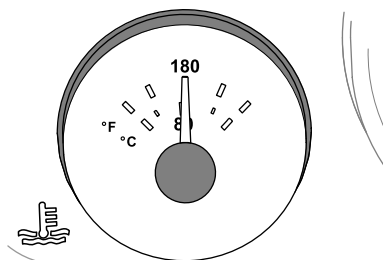

Figure 83
- E. Operate the engine for 5 minutes or until the coolant temperature gauge in the instrument cluster indicates 82°C (180°F), then stop the engine (Figure 83).